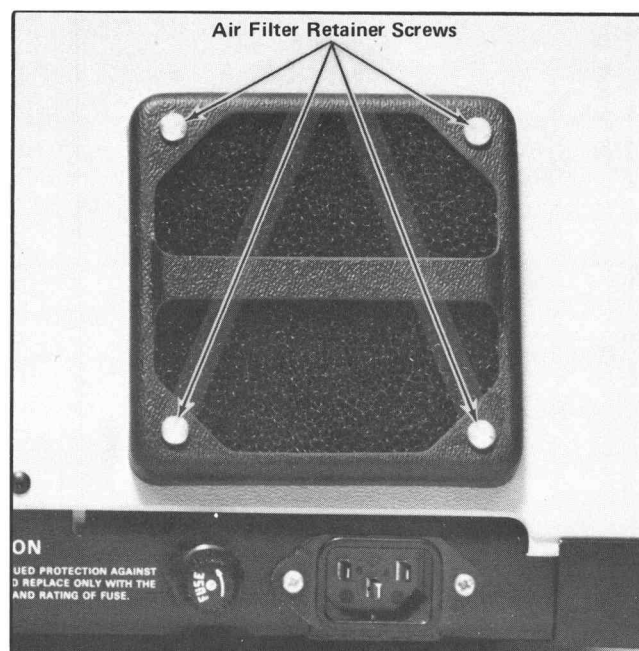

Fig. 3-1. Air filter retainer screws.
1. Remove the four screws which attach the filter retainer to the Plotter case (Fig. 3-1).